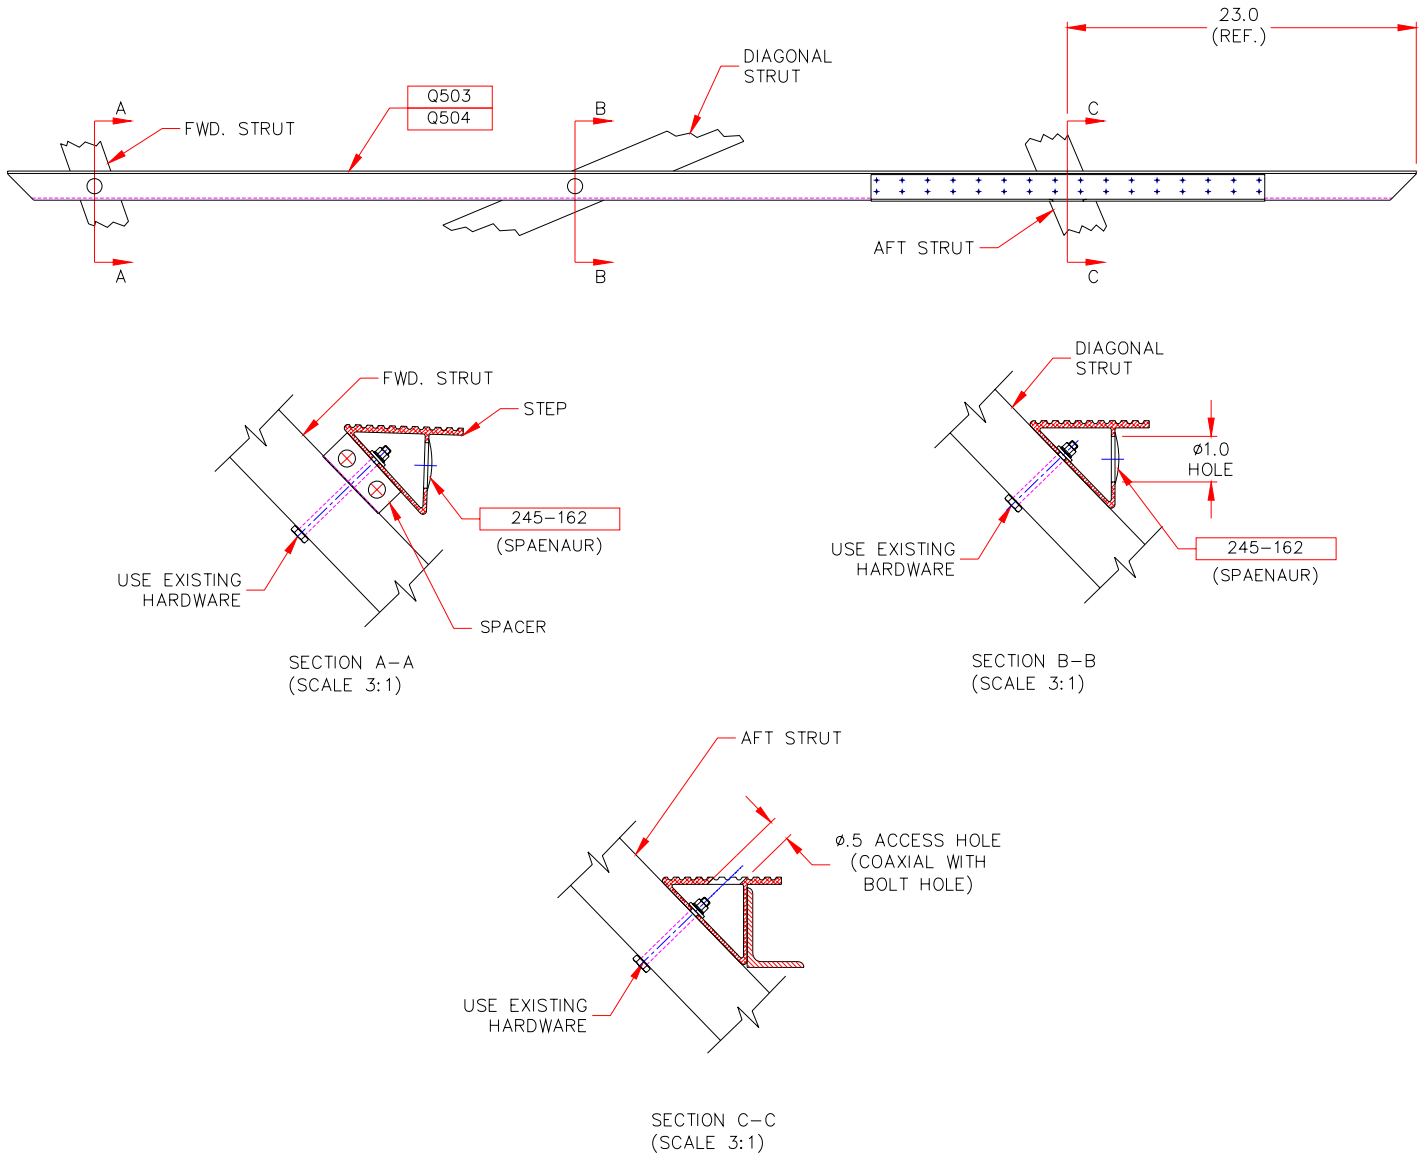

Figure 3
5. Drill mounting and access holes in steps – see Figure 3.
7. Install steps – see Figure 3.